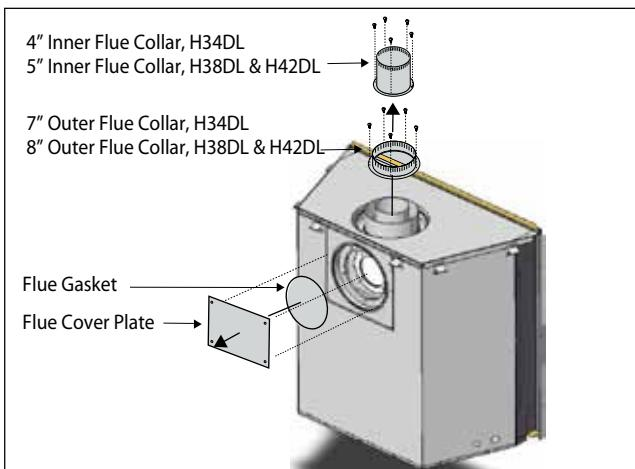

Figure 9. Flue cover and collar removal, **Top Vented** fireplace.
1. Remove the Rear flue cover and gasket (4/5" and 7/8") on the flue outlet, as shown in **Figure 9**.
2. Next, Remove the Top flue collar's (4/5" and 7/8") on the flue outlet, as shown in **Figure 9**.